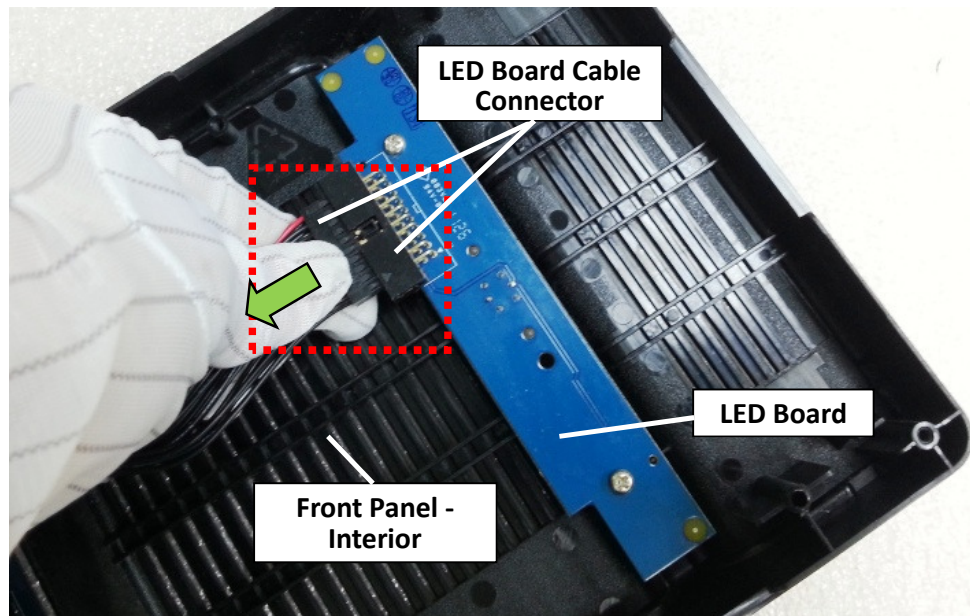

Fig. 62
- 3.1.14 Release the front cover from the enclosure. Then unplug the LED board cable connector (Marked by the red rectangle) from the LED board. (Fig. 62)